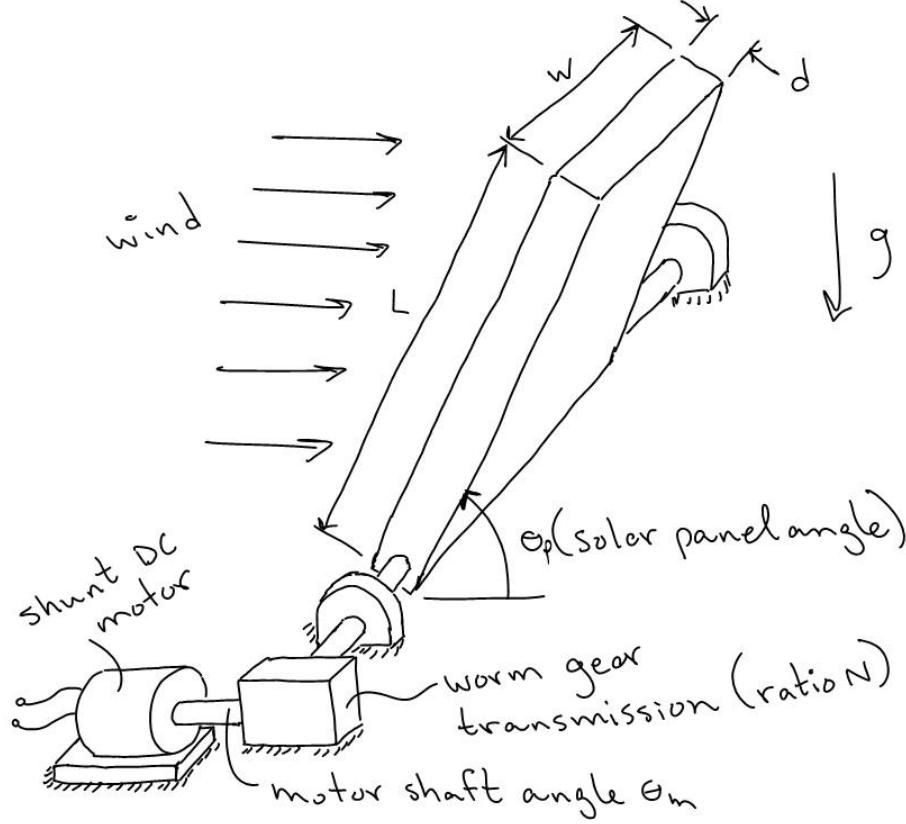

FIGURE 1 – Solar panel elevation angle actuation system.
An abstraction of the system used to control the solar panel's elevation angle is shown in Figure 1. The solar panel assembly, assumed to be a homogeneous and rigid cuboid, has mass m , length L , width w and thickness d (values are provided in Table 1). The panel is attached along one of its edges to a shaft supported by two bearings. The thickness of the solar panel assembly is considered negligible such that, from the point of view of its mass moment of inertia about the shaft
17. How would you evaluate the overall mechanical design of the solar panel tilt control system shown in Figure 1? What modifications would you make to the system to simplify its operation and allow for the use of smaller motors?